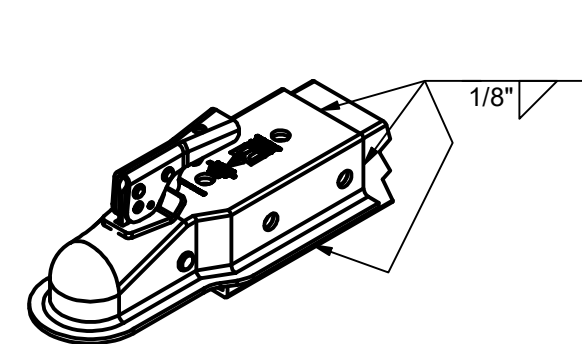

FIGURE 3: STRAIGHT TONGUE
1. Weld on both sides and the top using a 1/8" minimum fillet weld (See Figure 3).